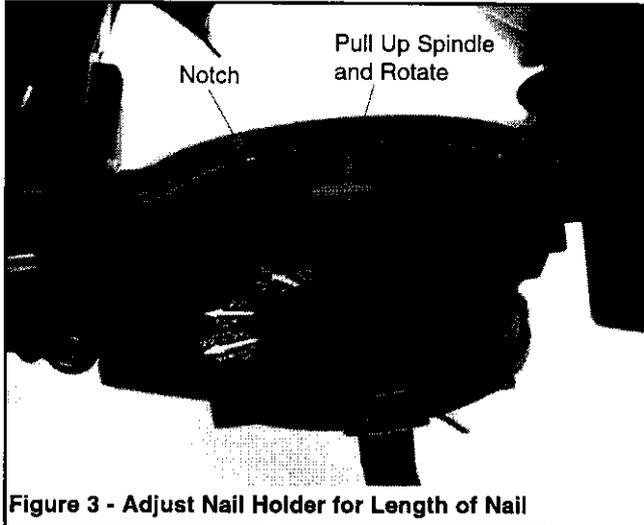

Figure 3 - Adjust Nail Holder for Length of Nail
- The nail holder must be set to the length of the nails being used. Pull up the spindle of the nail holder and rotate. The arrow indicator that corresponds to the nail size being used must be aligned with the notch in the magazine. Release holder spindle so that it locks in place (see Figure 3).